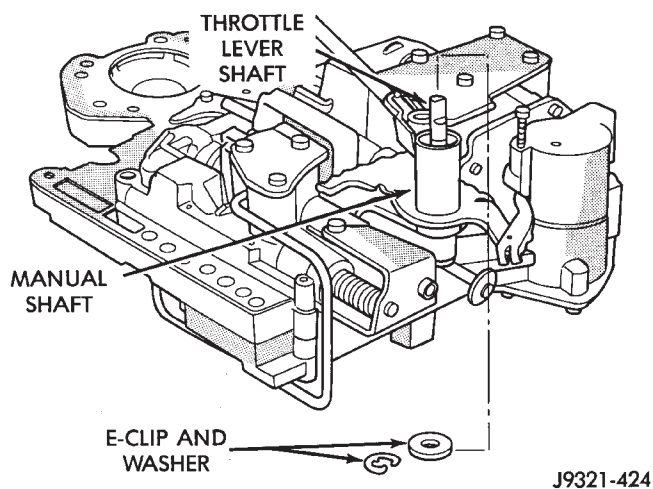

Fig. 46 Throttle Lever E-Clip And Washer
(16) Remove E-clip and washer that retains throttle lever shaft in manual lever (Fig. 46).